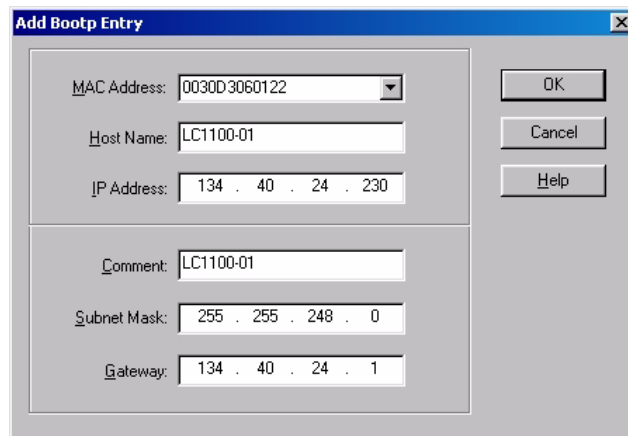

Figure 21 Add Bootp Entry - Enter your parameter
- 5 Select *Configure* -> *Add Entry* to configure the Bootp Manager (Figure 21). The drop down box "MAC address" lists all MAC addresses found. Select your MAC address. If no hardware address is found, select *Cancel* and repeat step 3 and step 4.